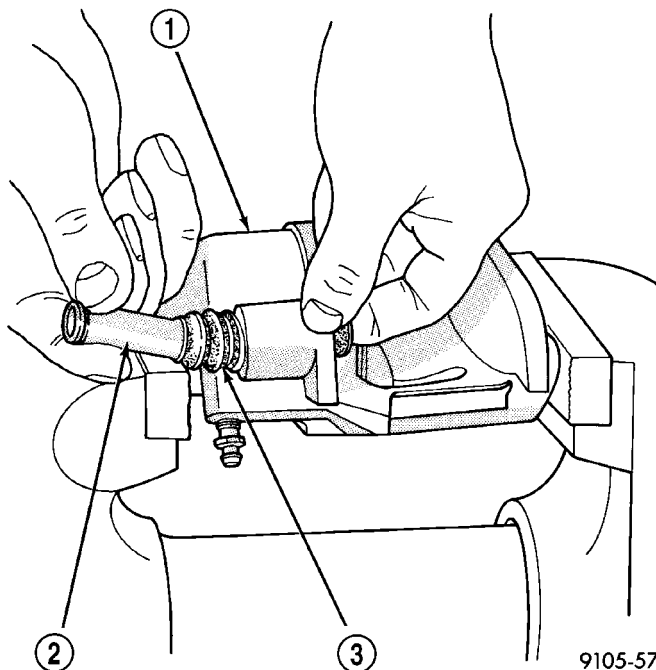

Fig. 27 Removing Sleeve From Bushing
(1) With one hand, push the guide pin bushing sleeve towards the back of the caliper, and at the same time, pull the sleeve out the back of the caliper and bushing (Fig. 27).